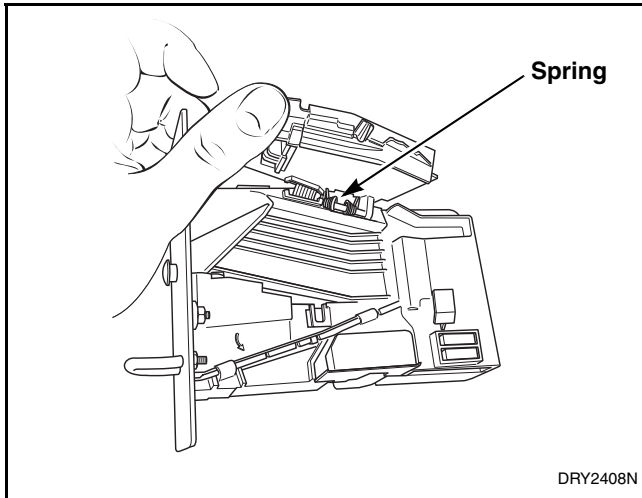

Figure 88
- Open cover of coin drop. Refer to Figure 88.